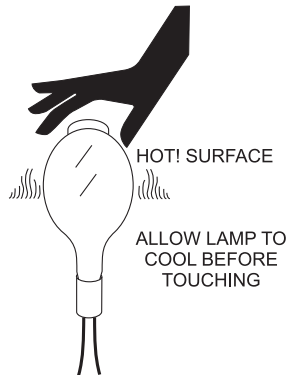

Figure 32. Hot Lamp Surface
1. Allow lamp (Figure 32) 15-20 minutes to cool before changing.